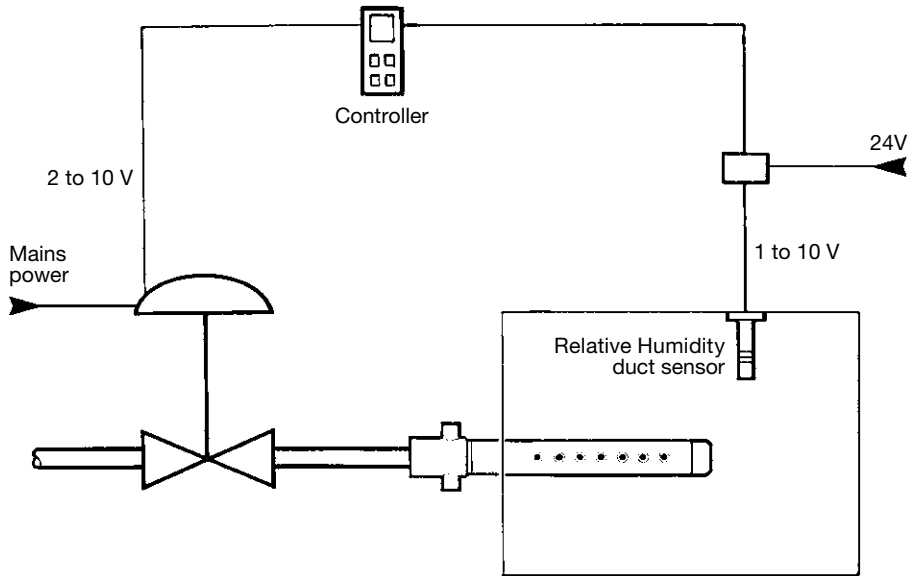

Fig. 21 Typical electrical control system
**3.11.4** Figure 21 shows a typical electric control system.